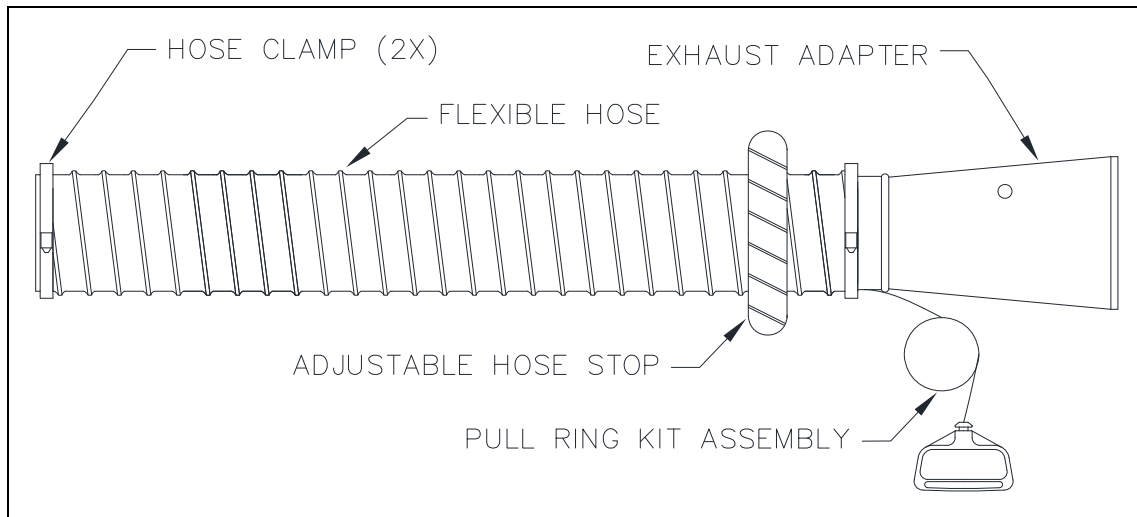

FIG3 – FLEXIBLE HOSE ASSEMBLY
- See steps 8-10 for hose assembly. Typical configuration shown in FIG3.